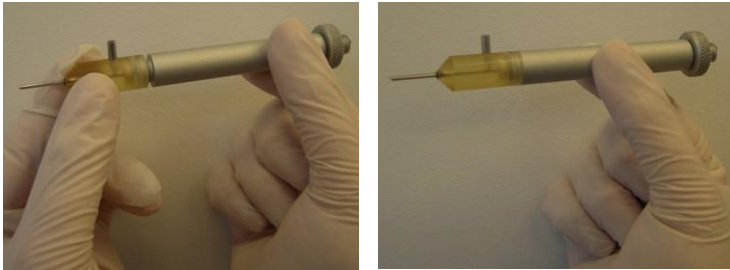

Figure 3-80. Screwing the Head to the Handpiece Body
4. Screw the head to the handpiece, as shown in Figure 3-80.